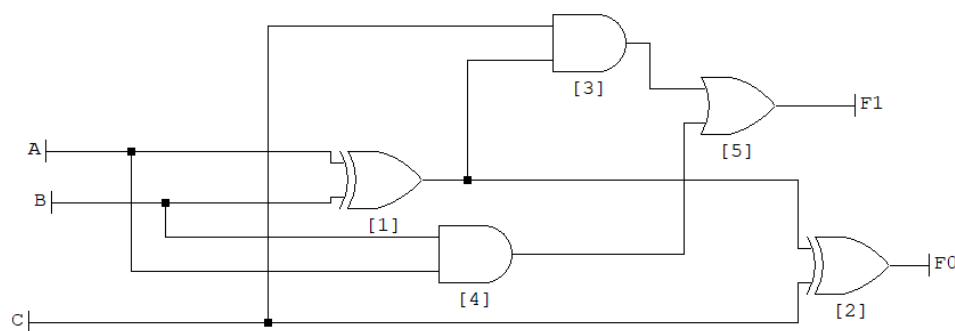

Figure 1. Expected Circuit Schematic
You are to instantiate a pre-written module that has been designed to behave as the circuit shown in Figure 1. However, the circuit has been modified to contain a single stuck-at-1 fault on one line. You are to design a series of test cases to determine where the fault is occurring, and demonstrate your results via simulation.
4. Create a testbench for this circuit and observe the functionality. Create a truth table for the circuit in Figure 1 and compare your results.